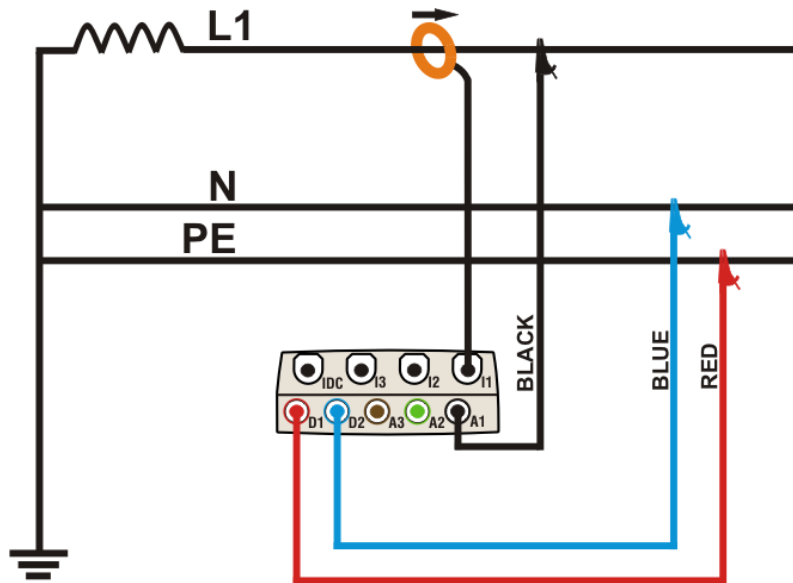

Fig. 165: Meter connection in a Single phase system
2. Connect voltage test leads on Phase, Neutral and Ground cables considering the colours as shown in Fig. 165).
3. Connect the transducer current clamp on L1 Phase cable as shown in Fig. 165) respecting the clamp's arrow direction indicating the current standard sequence from generator to load. **On Real Time Values' section screens always verify the positive value of Active Power and the power factor relative to load which should be normally inductive** before starting a recording. Reverse the clamp by 180 degrees on cables in case of negative readings.